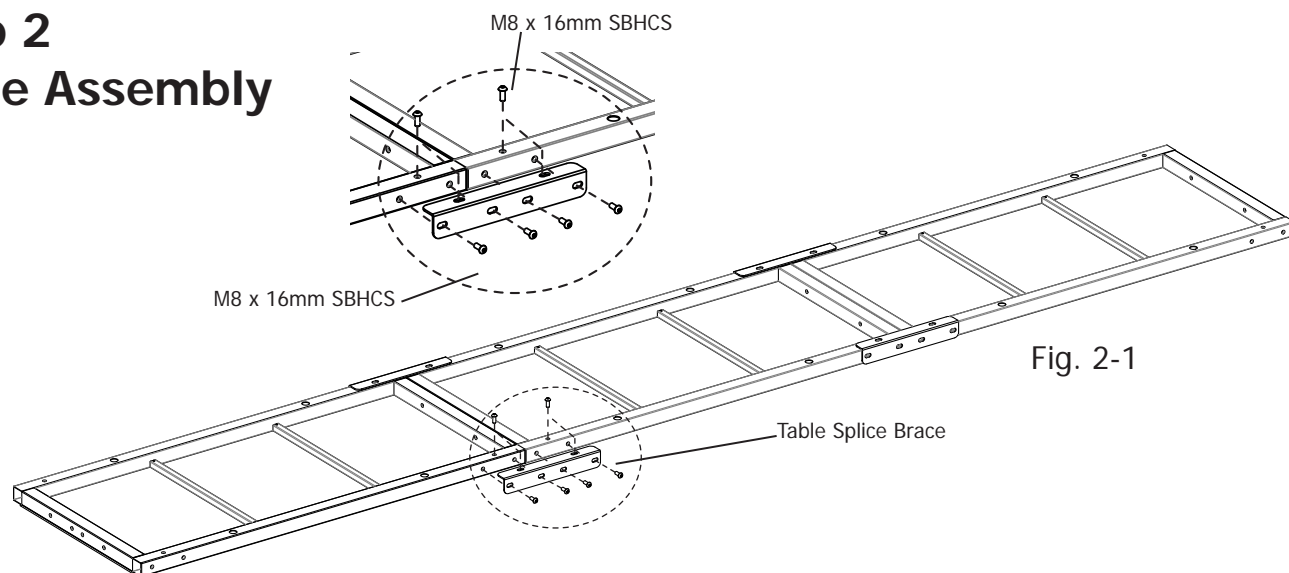

Fig. 2-1
2-2: 12 foot: Start with Two 4-foot table sections upside-down on the floor end to end. **10 foot:** start with one 2-foot and one 4-foot table sections upside-down on the floor end to end (as shown in Fig. 2-1). Join the sections together by placing a table splice brace onto the sections, lining up the holes in the brace with those in the sections. Make sure the flange portion of the brace is on top (as shown).
2-4: Finger-tighten two (2) SBHCS through the top of each table splice brace (as shown). (Fig. 2-1)